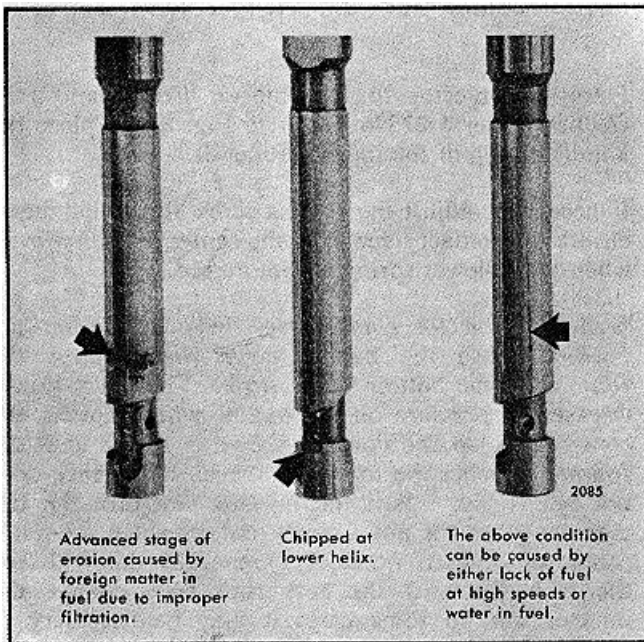

FIG. 10 Unusable Injector Plungers
4. Inspect the plunger. If the plunger is chipped (Fig. 10), replace the plunger and bushing assembly.